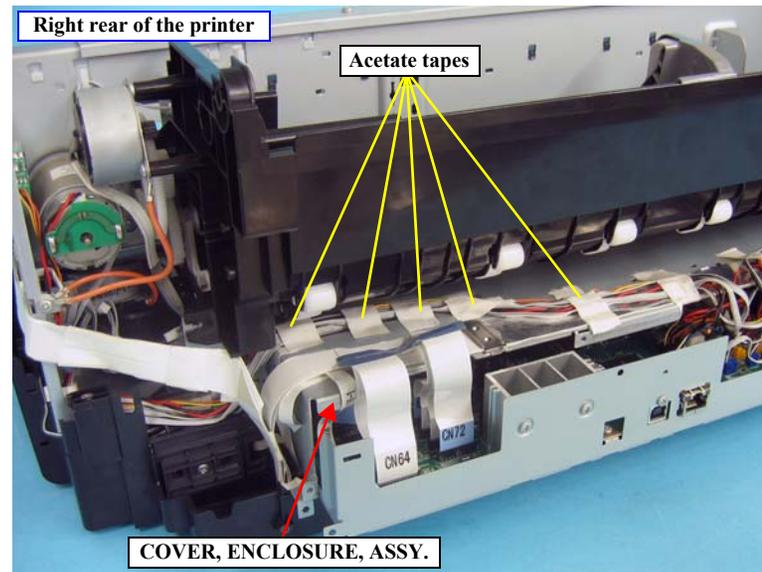

Figure 4-39. Releasing the MOTOR ASSY., APG cables (2)
5. Peel off the acetate tapes on the COVER, ENCLOSURE, ASSY. to release the cables of the MOTOR ASSY., APG. *See Figure 4-39.*
Route the cables of the MOTOR ASSY., APG, with other cables and secure them with the acetate tapes as shown in *Figure 4-39*.